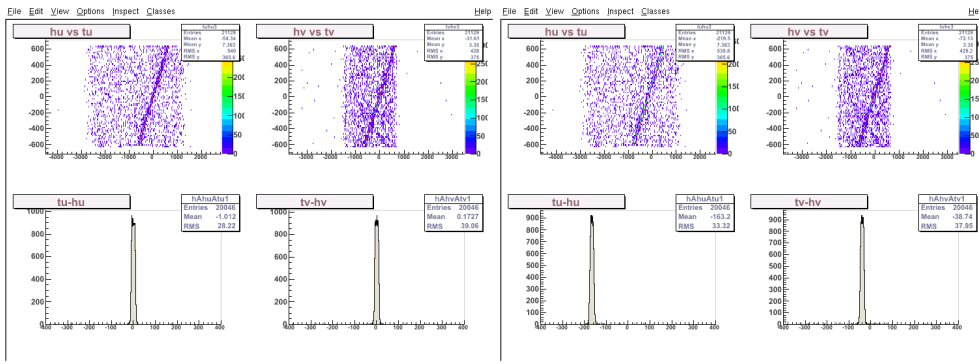

FIG. 2 – Check Mimosa Alignment (good/bad)
- then check the default alignment with the *Check alignment* method in the menu. It shows correlations between Hit position in the chip frame and hit position in the telescope frame. If the alignment is correct, the correlation is close to a line like $f(x) = x$ (top plots of figure 2). You can also see the residuals (track position - Hit digital position). The digital residual should be centered in zero (bottom plots of figure 2).